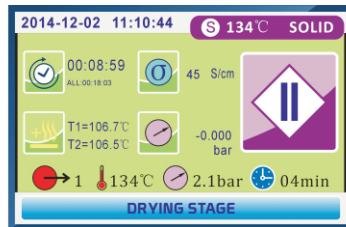

Fig.5.3-28
5.3.2.11.DRYING STAGE(Fig.5.3-28)